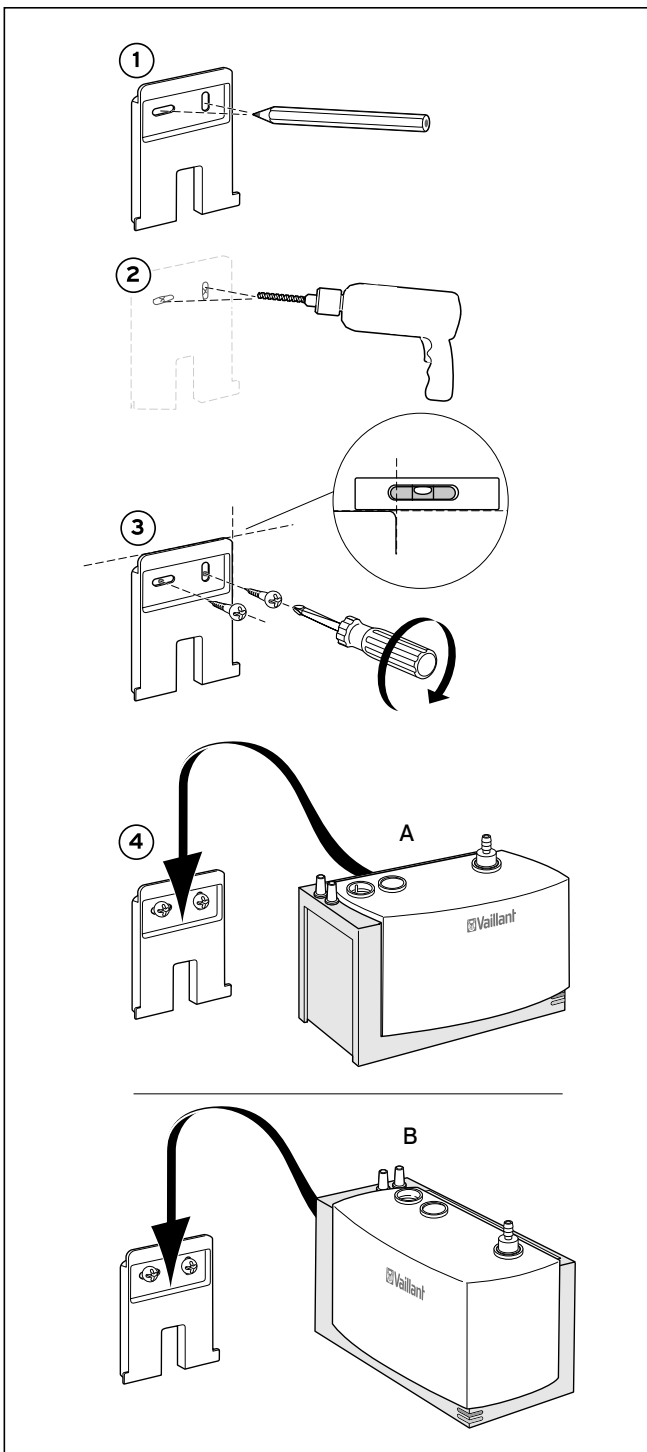

Fig. 4.2 Installing the wall bracket
- Install the wall bracket (as shown in Fig. 4.2) in a suitable position below the point where the condensate drains out of the boiler.